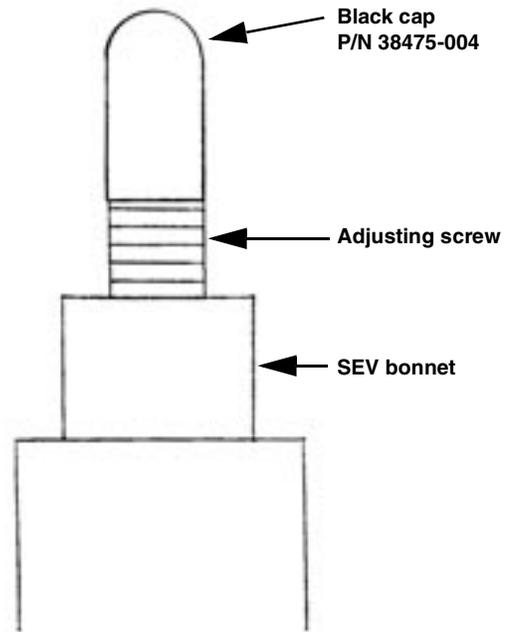

FIGURE 3
41. Using needle nose pliers, for the black cap over Adjusting Screw head on water side (see Figure 3), ensuring cap covers entire screw head.